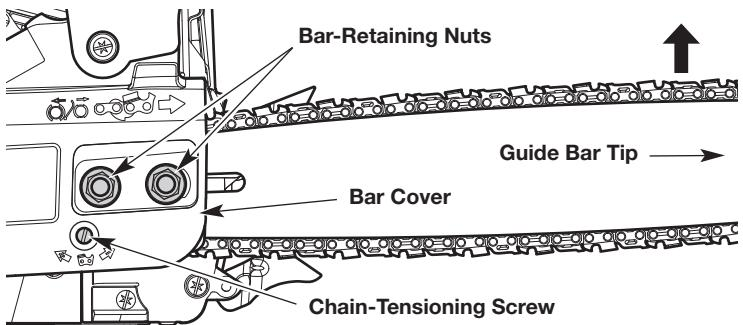

Fig. 27
**NOTE:** A new saw chain tends to stretch and will need readjustment after as few as five (5) cuts. This is normal during the break-in period. The interval between future adjustments will lengthen quickly.
2. Use the multi-purpose tool or a 1/2 inch (13 mm) wrench to slightly loosen the bar-retaining nuts (Fig. 27). **DO NOT** remove the bar cover.
3. Hold the guide bar tip up and use a flat-head screwdriver to turn the chain-tensioning screw (Fig. 27).